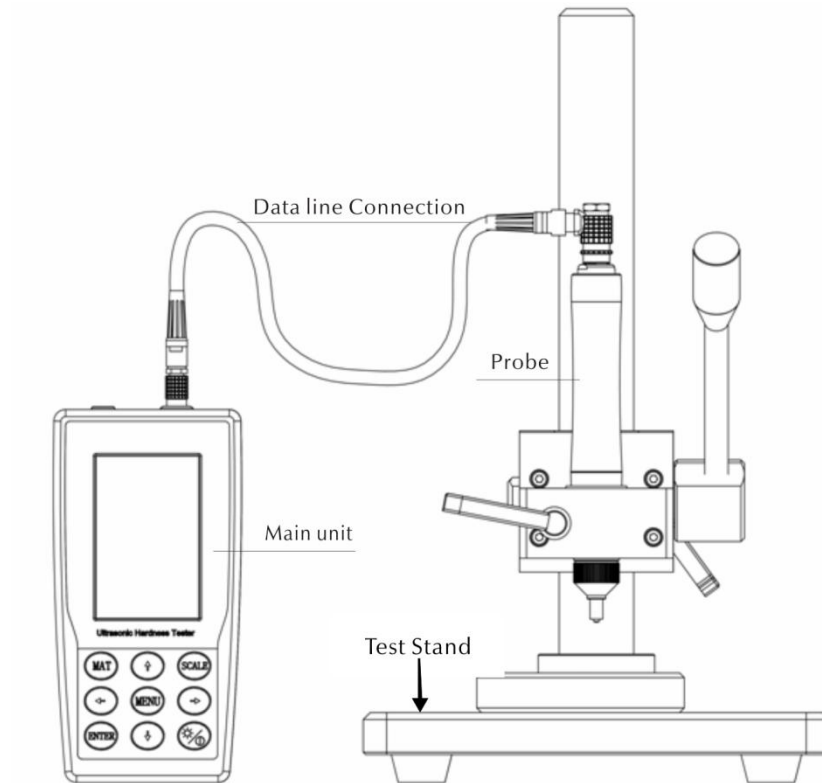

Fig 1-1
Ultrasonic hardness tester apply ultrasonic contact impedance method to do comparative hardness measurement for testing pieces, with advantages of high accuracy, efficiency, portable, easy operation and nondestructive measurement. As shown in figure 1-1.
- The main unit is connected through an 8-pin data cable and ultrasonic probe, as shown in figure 1-1.